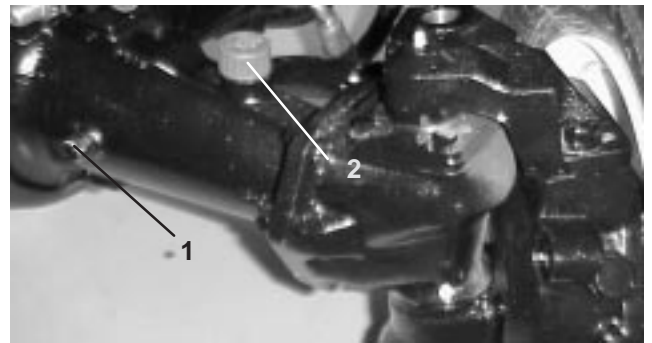

Figure 20
2. Remove a check plug (Fig. 20) from one end of axle and make sure lubricant is up to bottom of hole. If level is low, remove the fill plug (Fig. 20) and add enough lubricant to bring the level up to the bottom of the check plug holes.